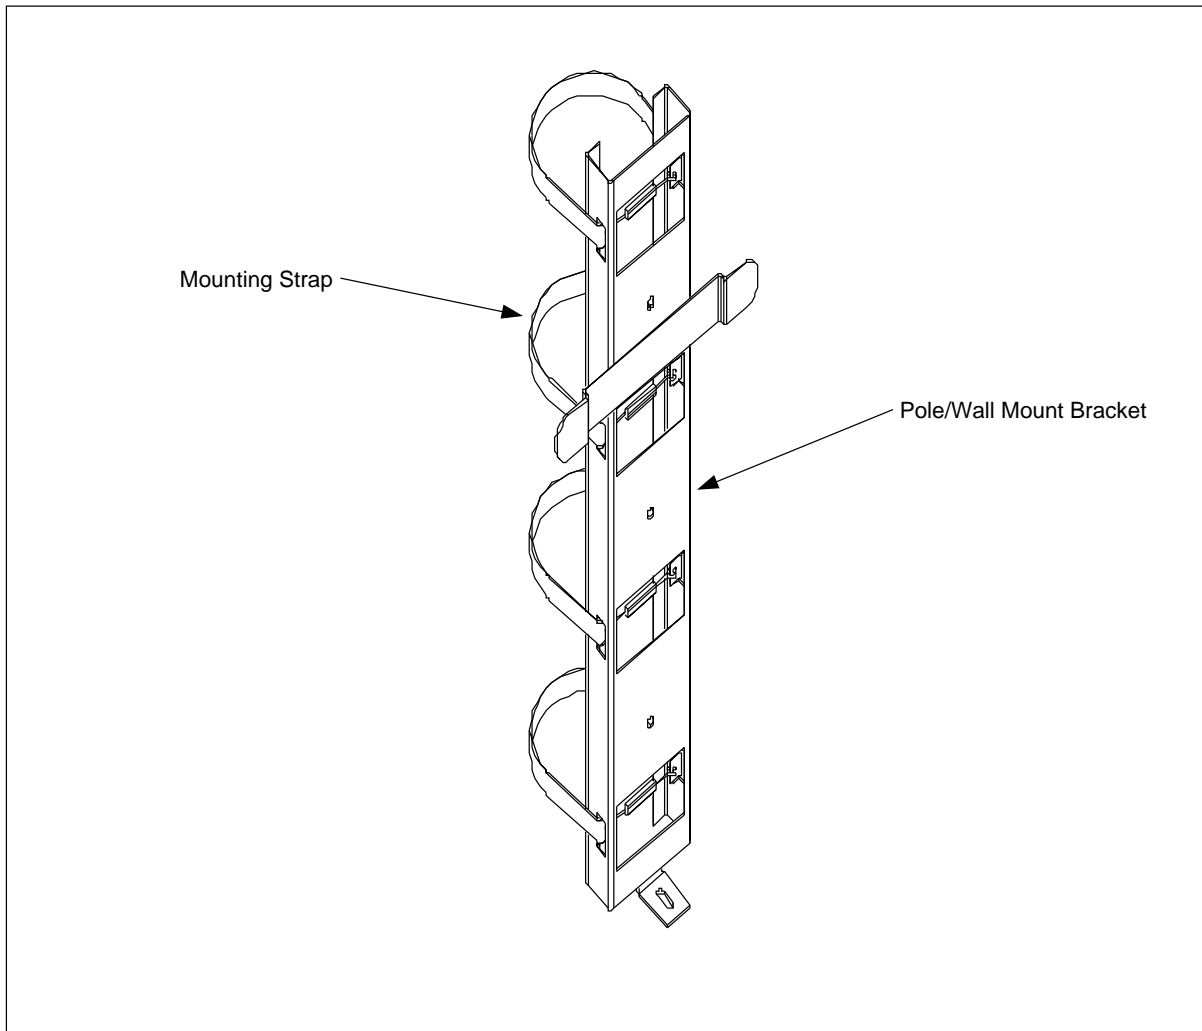

Figure 4-4. Pole-Mount Components
2. A detachable mounting bracket secures the cabinet to the pole. See Figure 4-4 on page 4-16.